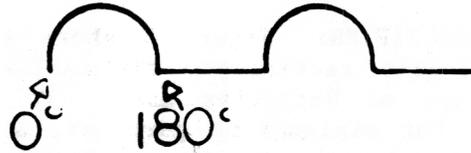

Figure 6
- (a) During the positive alternation of the input voltage, the positive alternation of the sine wave causes the anode of the diode to become positive with respect to the cathode. The diode is now forward biased and will conduct. Current will now flow from the negative side of the transformer secondary, through the load resistor, through the diode to the positive side of the transformer secondary. This path for current flow will exist during the complete positive alternation of the input waveform because the diode will remain forward biased as long as the positive signal is applied to the anode. The resulting output of the rectifier will be developed across the load resistor and will be a positive pulse very similar to the positive alternation of the input waveform. (See figure 6)